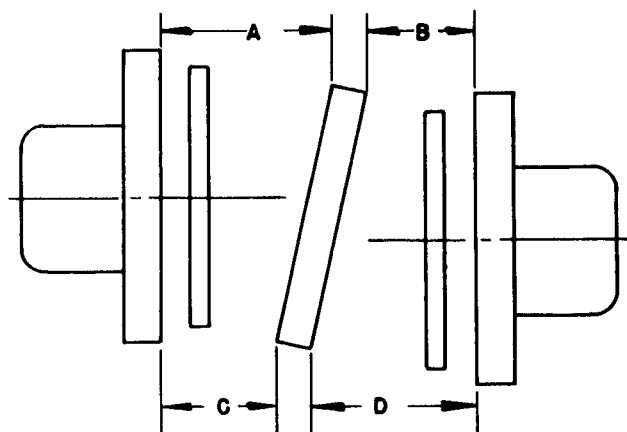

Fig. 69 — Parallel Misalignment
Introduction — Proper coupling alignment is essential to trouble-free operation of your unit. *The maximum permissible angular or parallel misalignment (Fig. 69,70) for all couplings is .010 inches.*
11. If dim. A and D are larger than B and C (Fig. 69), the coupling is in parallel misalignment. Move and shim the motor until the dimensions are within tolerance.